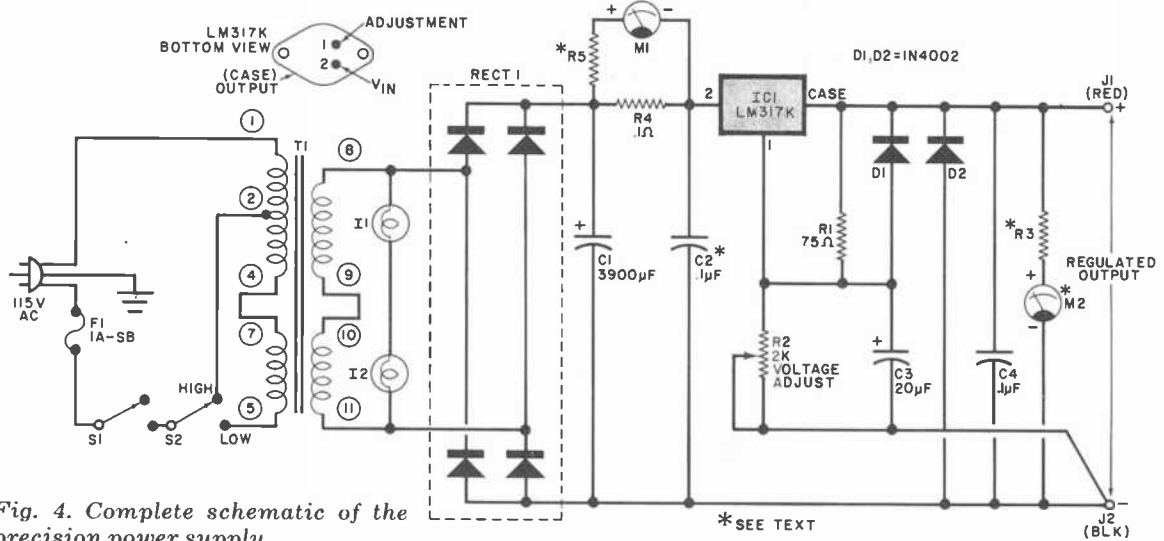

Figure 4. Complete schematic of the precision power supply.
**About the Circuit.** The complete schematic of a 32-volt, 1.5-ampere bench power supply is shown in Fig. 4. Using the LM317 voltage regulator greatly simplifies the design and construction of the supply but keeps performance and reliability at high levels.